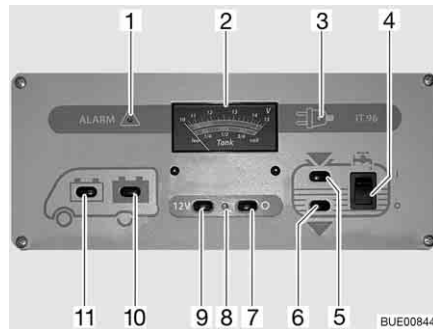

Fig. 150 Panel IT 96-2
The 12 V main switch (Fig. 150,7 and 9) switches the panel and the 12 V power supply to the living area on and off.
Switching on: ■ Press switch (Fig. 150,9) "12 V": The 12 V living area power supply is switched on. The indicator lamp (Fig. 150,8) lights up green.
Switching off: ■ Press switch (Fig. 150,7) "O": The 12 V living area power supply is switched off. The indicator lamp (Fig. 150,8) goes out.
With the V/tank gauge (Fig. 150,2), note the top scale. The gauge automatically lights up as soon as a switch is pressed.
- Press switch (Fig. 150,11) "": The battery voltage of the starter battery is displayed.
- Press switch (Fig. 150,10) "": The battery voltage of the living area battery is displayed.
The V/tank gauge is for the indication of the quantity of water or waste water. With the V/tank gauge (Fig. 150,2), use the bottom scale. The gauge automatically lights up as soon as a switch is pressed.
- Press switch (Fig. 150,5) "": The volume of water is displayed.
- Press switch (Fig. 150,6) "": The volume of waste water is displayed.
- Press the upper part of the rocker switch (Fig. 150,4) "I": The water supply is ON.
- Press the lower part of the rocker switch (Fig. 150,4) "O": The water supply is OFF.
The red "ALARM" warning light (Fig. 150,1) flashes as soon as the voltage of the living area battery falls below 11 V (measured under operation) and there is a risk of a total discharge.
The 12 V indicator lamp (Fig. 150,8) illuminates whenever the 12 V main switch (Fig. 150,9) is switched on.
The yellow 230 V indicator lamp (Fig. 150,3) illuminates whenever line voltage is available at the transformer/rectifier input.